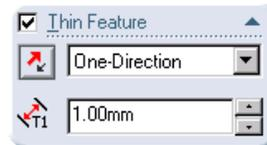

Figure 4-44 Thin Feature rollout
4. Select the **Thin Feature** check box to invoke the **Thin Feature** rollout as shown in Figure 4-44.